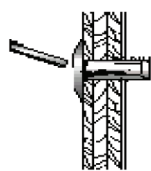

Figure 3
- With the body of the rivet inserted in the mounting hole, break off the stem of the rivet (Fig 3).